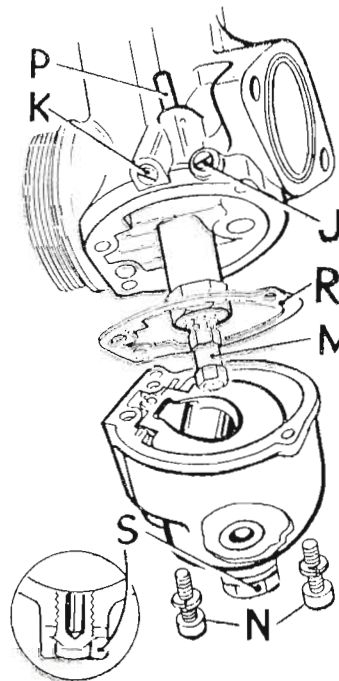

FIGURE 17.
An exploded view of the carburettor is shown in FIG. 17. Opening the twist grip throttle control raises the throttle slide, thus controlling the supply of air to the motor. The tapered needle controlling the supply of gas (petrol) is attached to the throttle slide so that a balanced mixture is always provided. The needle has grooves at its upper end and it is secured in the throttle slide by the spring and by the circlip which locates in one of these grooves.
Screwing in the pilot air screw (J) FIG. 17, restricts the air supply, thus giving a richer mixture and unscrewing it gives a lean mixture.